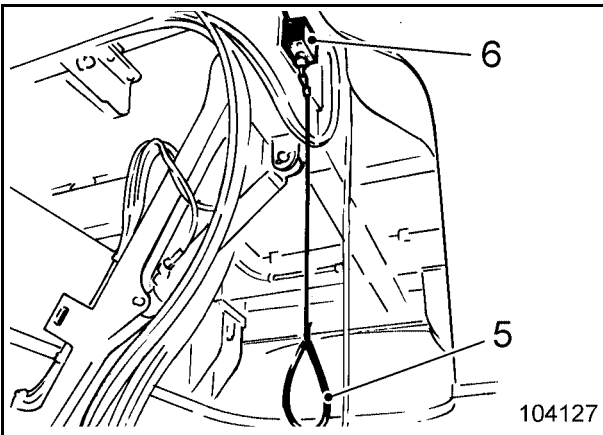

Fig. 2-42:
- ⚠ **EMERGENCY STOP** mush room-head pushswitvh (6, Fig. 2-42:) unlocked